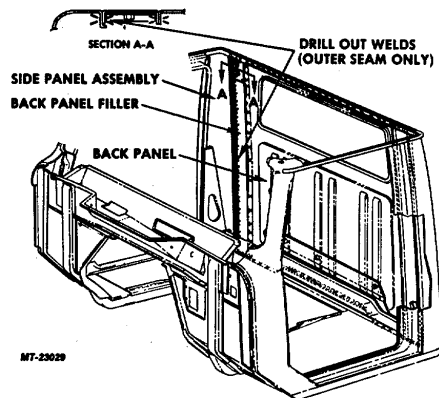

Fig. 40. Side Panel to Back Panel Spot Welds (Right Corner 90" Wide Cab Shown)
4. Drill out spot welds along seam between back panel and side panel and separate rear of side panel from back panel (Fig. 40). Drill at outer seam if for 90" wide cab.